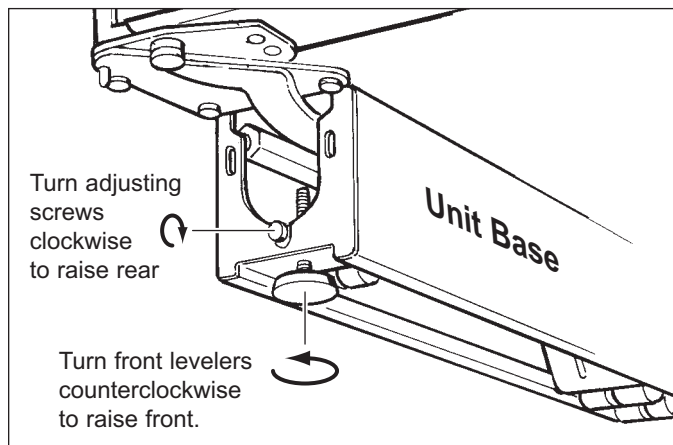

Figure 2-4. Unit Leveling
- To raise unit front, turn front leveler legs counterclockwise, clockwise to lower (See Figure 2-4).
- At front of unit base is an adjusting screw that reaches to rear leveler/roller assembly. To raise unit rear, use 5/16" socket wrench to turn adjusting screw clockwise to raise, counterclockwise to lower (See Figure 2-4).